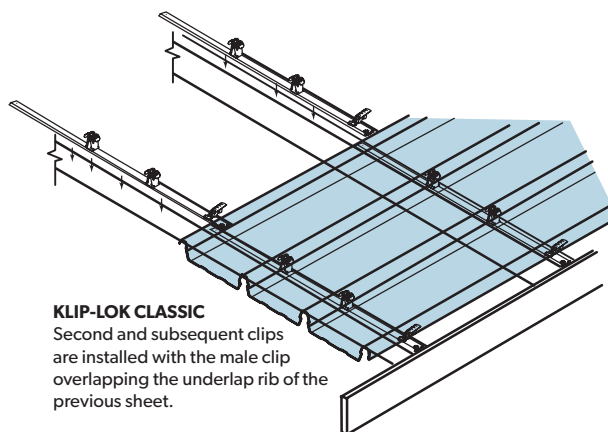

Figure 9.1.11 Fix the next (and subsequent) clips and sheets
10. Fix each next row of clips one to each support by engaging the front of the clip assembly onto the underlap rib of the preceding sheet engaging the spur of the clip to the leading edge of the previous sheet. (Figure 9.1.11 & 9.1.12) Be sure the clip is at 90° to the edge of the sheet.